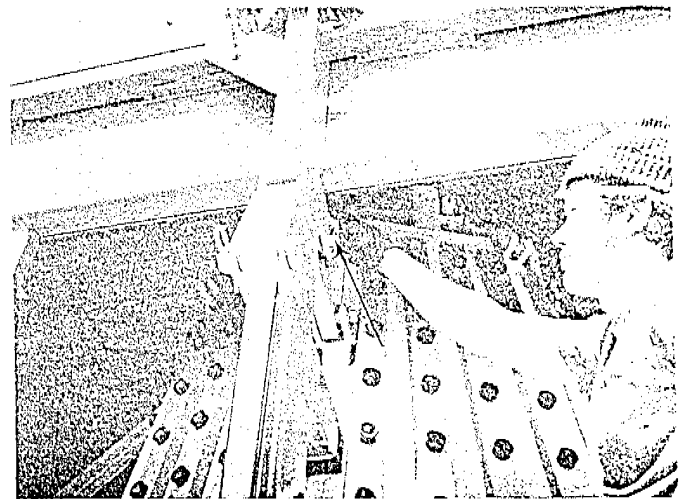

Fig. 30
- Remove the snap key and the platform retaining pin from the locking link that secures the platform in storage position. CAUTION: Do not remove the pin that secures the hydraulic cylinder to the large rotating platform section. Removal of the pin at this time could cause serious damage to the ride. (Fig. 30)